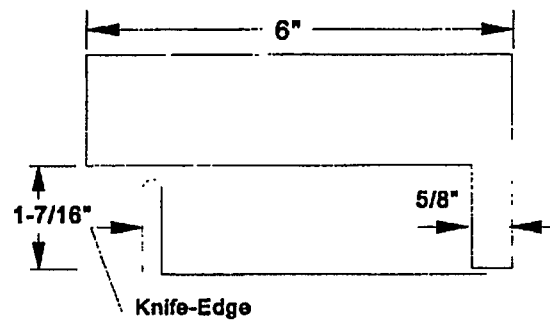

Figure 600-2.41. Gauge for Measuring Knife-edge Height
- c. Inspect the entire knife-edge for proper height. A block of aluminum cut to the specifications shown in figure 600-2.41 is an effective gauge. If the knife-edge is more than 1/8 inch too high or too short, it must be repaired in accordance with step d.